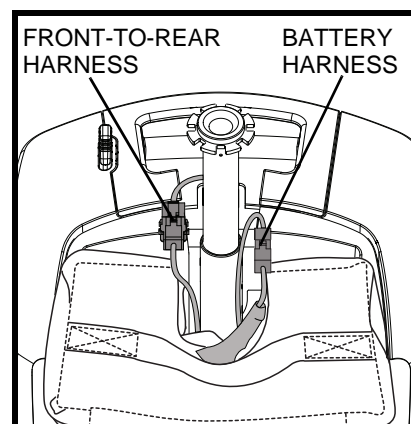

Figure 19. Harness Connections
4. Disconnect the battery harness. See **figure 19**.
5. Disconnect the front-to-rear harness. See **figure 19**.